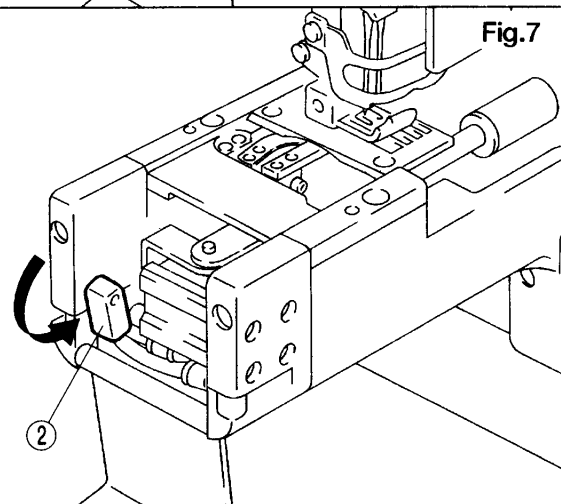

Fig.7
Bracket ③ should not contact stopper ② when the air cylinder protrudes. To make this adjustment, loosen screw ① (see Fig.4) and then turn stopper ② in the direction of the arrow (see Fig.7). After this adjustment, tighten screw ①.